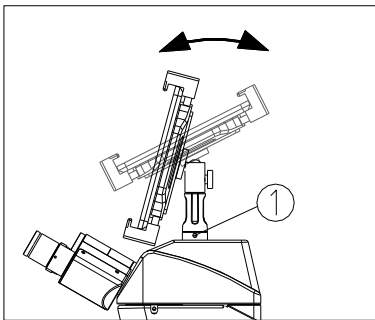

Fig. 19
3. Loosen the locking screw ① on the wireless digital observation tube and remove the dust cover ②. Be sure to loosen locking screw on each side.
4. Insert the flat plate clamp sleeve into the interface according to the diagram and tighten the locking screw ①. Be sure to tighten the locking screw on each side or the tablet may fall.
5. Adjust the tablet angle by rotating the flat plate clamp to get the most comfortable observation position (See Fig. 19).